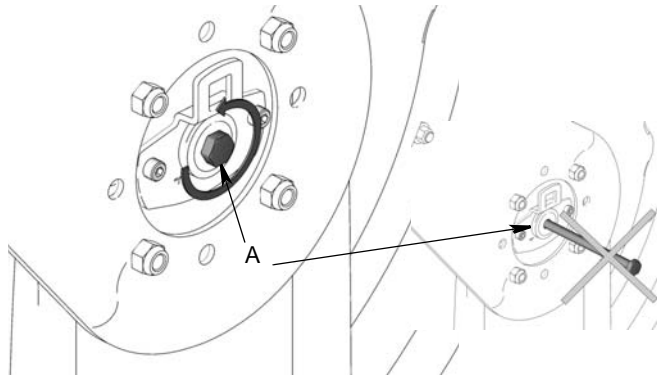

FIG. 23
1. Loosen, but **DO NOT REMOVE**, bolt (A) (approximately 3 to 5 turns) (FIG. 23).